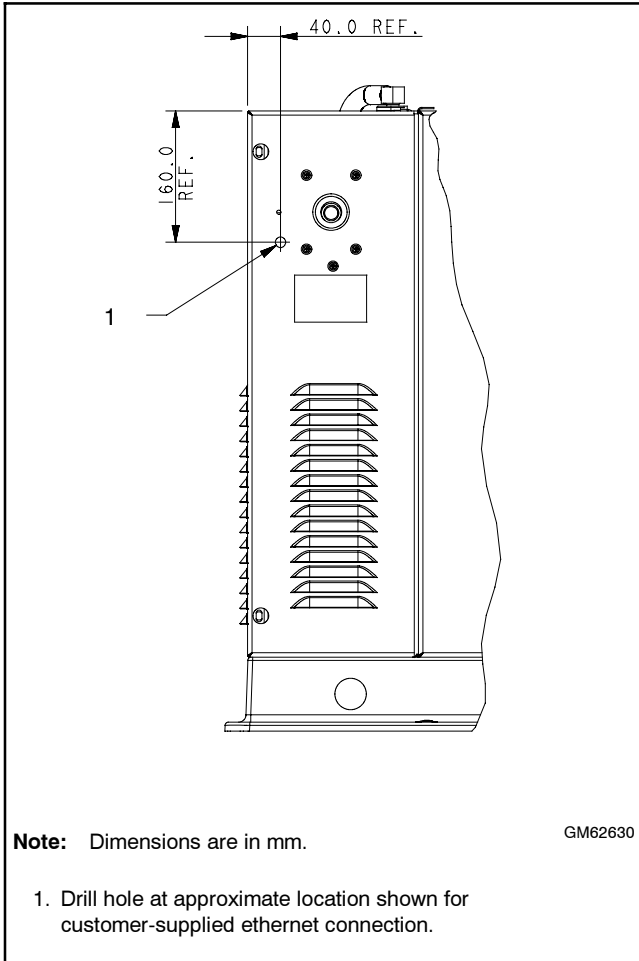

Figure 11 Ethernet Cable Opening
- b. Drill a hole for the Ethernet cable (customer-supplied) as shown in Figure 11.